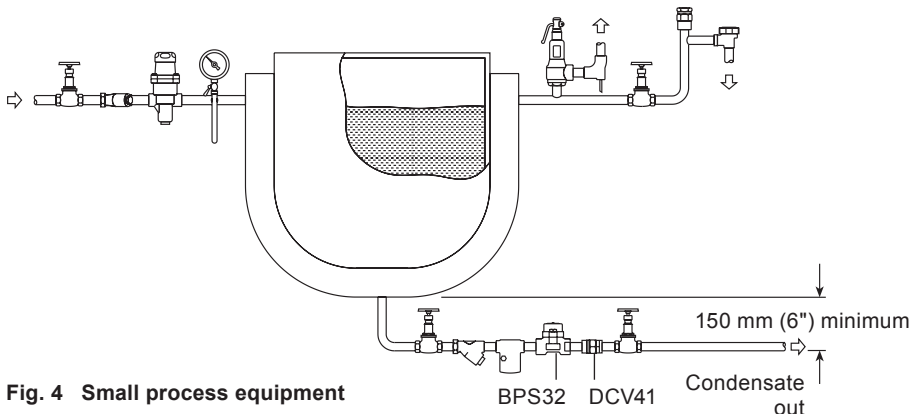

Fig. 4 Small process equipment
- 3.4** The trap is designed for installation in any position, horizontal or vertical, preferably with a drop leg immediately preceding the trap - typically 150 mm (6") see Figure 4. Caution: If no drop leg is allowed then it may be possible (under low load conditions) for steam to flow over the condensate in the bottom of the pipe and reach the trap.
- 3.5** Always fit a non-return (check) valve downstream of any steam traps which discharge into condensate return lines where backpressure is experienced. This is most commonly caused by a rising condensate line. The check valve will prevent the steam space flooding when the inlet pressure is reduced or the steam is shut off. Use a suitable valve such as the Spirax Sarco DCV41, see Figure 4.